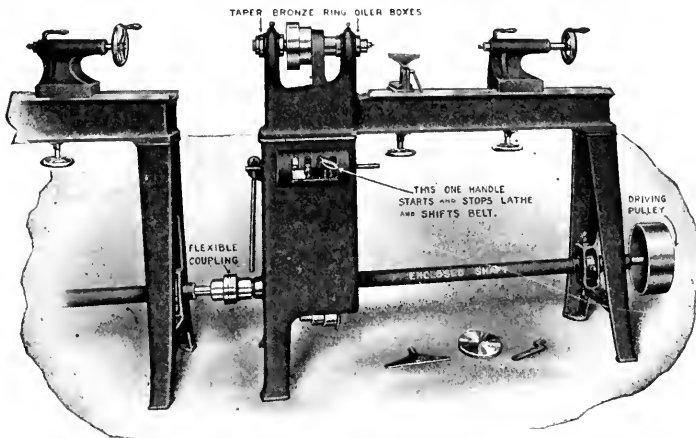

Fig. 50 -- UNDER-DRIVE TYPE OF WOOD-TURNING LATHE.
**48. General--** There are several different forms of wood turning lathes in use. Some have an overhead drive and run from a counter shaft. Others have a motor head where the lathe in Fig. 50 has a cone pulley. The other type, and the one most used is the one shown in Fig. 50, and is called an under-drive. These lathes are also built in different sizes. The size is determined by the largest diameter of the stock which it will turn, and the longest length which can be turned between centers.
**50. Speed and Power--**  $\frac{3}{4}$  H. P. is necessary when an individual motor drive is used on the average medium size lathe as found in school shops. As already stated in article 48, the under-drive type is more economical. While a  $\frac{3}{4}$  H. P. motor is necessary for an individual drive in order to meet maximum conditions, a 3 H. P. is quite ample to drive a line of six or eight lathes with individual control. It is readily seen that in a group of six or eight lathes only a few will be doing heavy duty work, since most of the work attempted in school shops is of a small diameter. The drive shaft referred to may be noted in Fig. 50, and is inside of the casing marked "enclosed shaft." The drive shaft and pulley should be of such a diameter as to give a spindle speed of from 700 to 3000 R. P. M. In the case of the machine represented in Fig. 50, the speed of the drive shaft should be approximately 600 R. P. M.